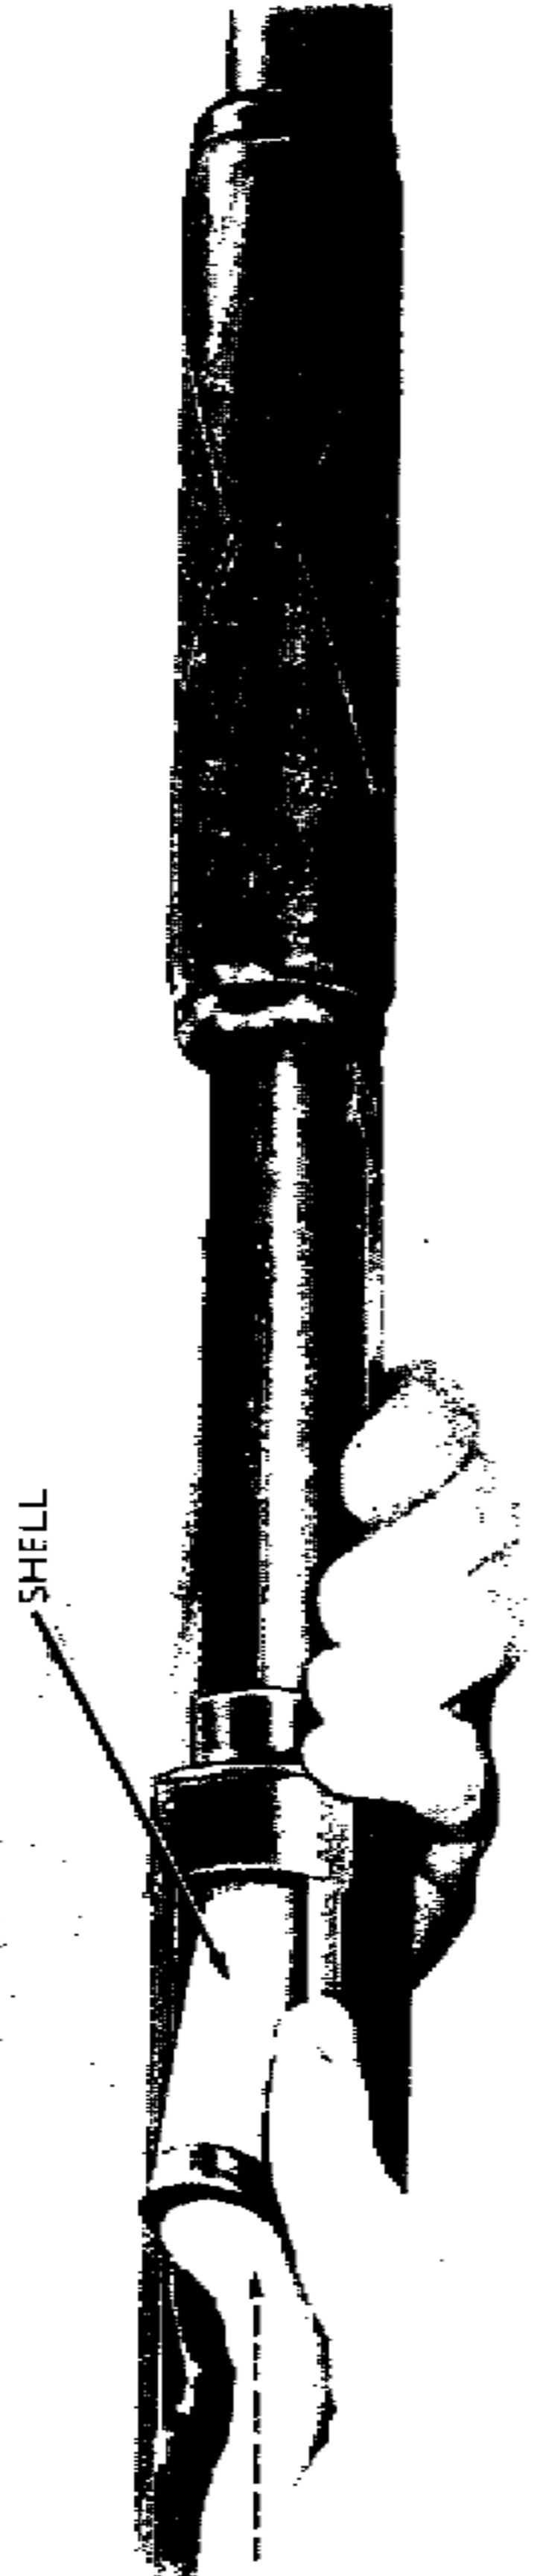

Figure 42—Loading Magazine—Stevens Shotgun M620
(1) To load the magazine (fig. 42) press a shell, nose first, against the lifter and into the rear end of the magazine against the magazine follower until it slips in front of and is retained by the lifter. Load another shell in the same way by pressing it against the lifter and base of the first shell loaded, until five in all are loaded. Loading should be done with the sliding breech closed and locked.
(2) To unload the magazine, press the carrier up into the receiver until free of the base of the shell in the magazine and allow the shells to slip out one by one. Sliding breech must be in locked position.